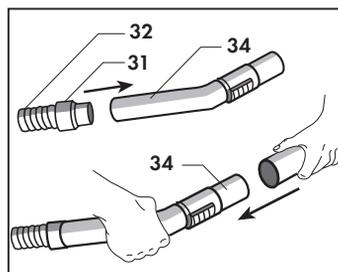

Fig. 30
To connect the different attachments, just insert the rotating connection piece (31) of the hose (32) into the handle (34) and engage the female end of the selected accessory to the male end of the handle (34) (**Fig. 30**).